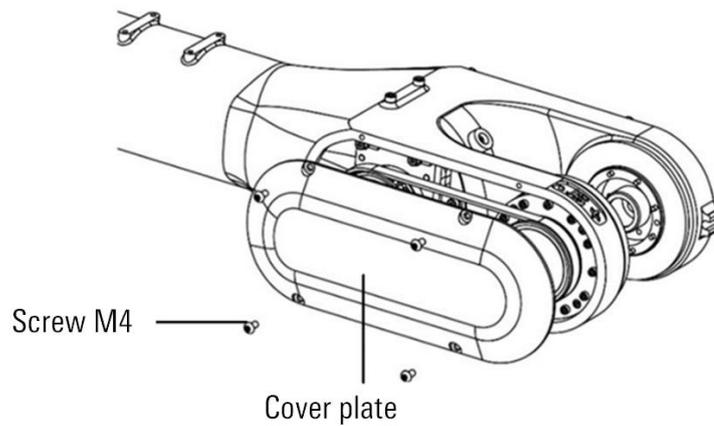

Figure 12-9 Removal of cover plate
Step3. Remove the manipulator cover plate and four M4 screws, as shown in Figure 12-9.